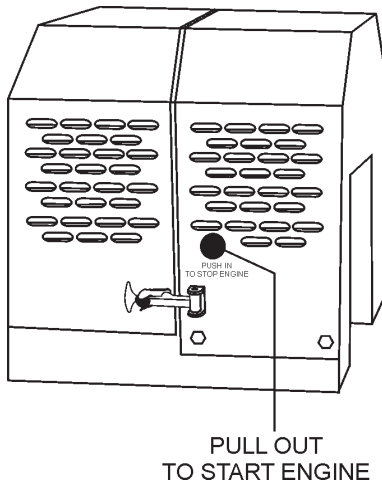

Figure 16. Start/Stop Switch (gasoline engine)
- The main **start/stop** switch located on the engine cover is (Figure 16) is used to start and stop the engine. Pull this switch outward to start the engine.
2. Push the main **start/stop** switch (Figure 16) inward to stop the engine.